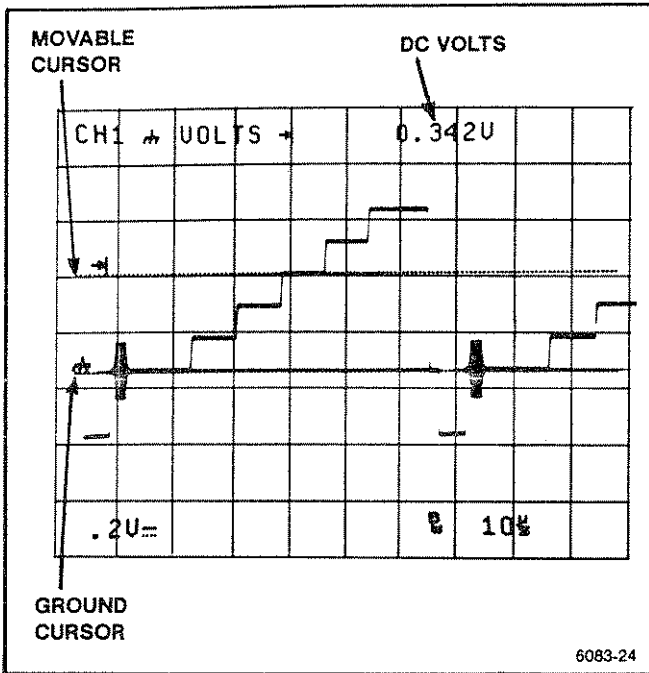

Figure 6-10. Instantaneous dc voltage measurement.
3. Position the independent cursor using the \rightarrow or Δ control to the measurement point on the waveform and read out the dc value of the cursor position (shown in Figure 6-10). (The $\left| \right|$ or DELAY control has no effect.)
The test signal used for illustration purposes shown in Figure 6-10 is a video test signal. For triggering on video waveforms, select TV LINE Trigger COUPLING and negative Trigger SLOPE; for other signal types, no change of COUPLING or SLOPE is required.